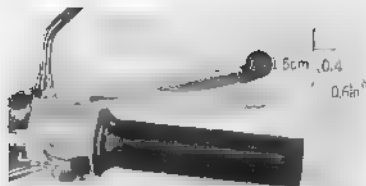

Fig. 5.28 Free play of brake lever
**1. Front brake adjustment****1. Lever free play (Fig. 5.28)**